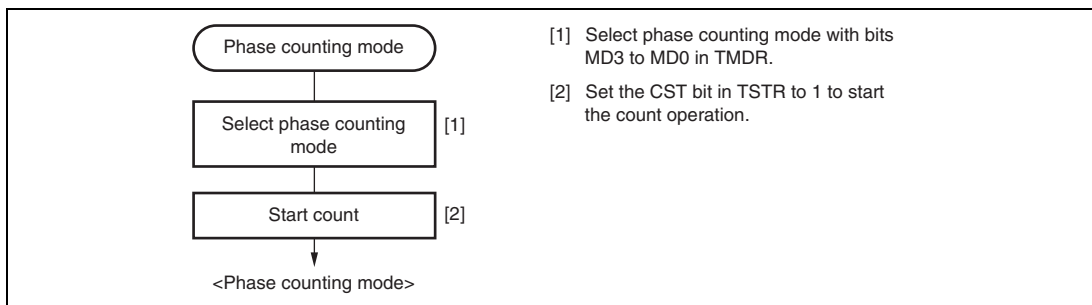

**Figure 11.24 Example of Phase Counting Mode Setting Procedure**
**Example of Phase Counting Mode Setting Procedure:** Figure 11.24 shows an example of the phase counting mode setting procedure.